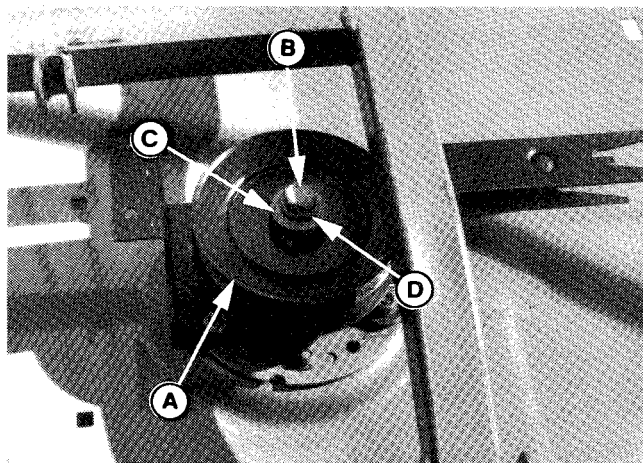

Figure 5.
12. Install the new double-groove pulley (A, figure 5) with 7/16-14 x 2.0 capscrew (B) and existing washer (C) and lockwasher (D). Torque to 55-70 ft. lbs. (74-95 Nm). Use a wood block to prevent blade from turning. Do not install belt at this time.